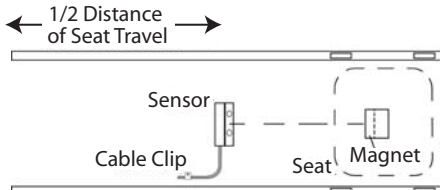
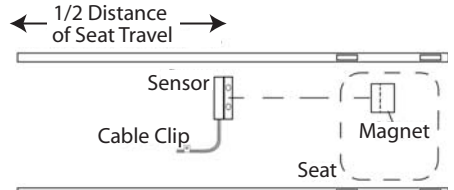

FIGURE 1a: SENSOR & MAGNET INSTALLATION (Sensor Installed on Centerline of Seat)
FIGURE 1b: SENSOR & MAGNET INSTALLATION (Sensor Offset Centerline of Seat)
Refer to Figures 1a and 1b. Note the position of the sensor - it should be close to the center of the seat travel and it **MUST** be perpendicular to the long axis of the shell.
It is not necessary for the sensor and magnets to be centered between the rails as shown in Figure 1a. They may be positioned off center as shown in Fig 1b. However, the holes in the magnet assembly **MUST** pass directly over the holes in the sensor. The dashed horizontal line in each figure indicates the correct alignment.
- 5) Return the stroke seat to its slide and check that the clearance between the magnet and sensor is no more than 10 mm (refer to Fig 2). Check also that the magnets pass directly over the sensor (refer to Figures 1a, 1b).